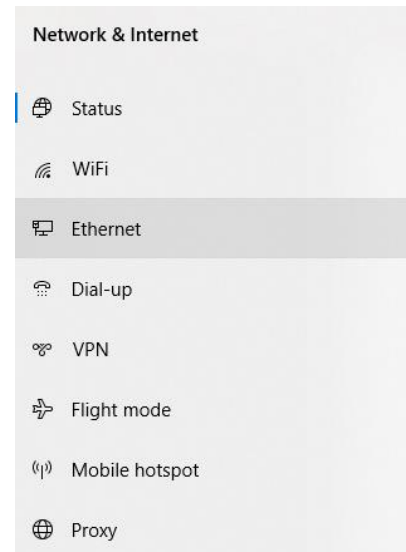

Fig.3
4. Choose Ethernet (Fig. 3) and the menu will open (Fig. 4).